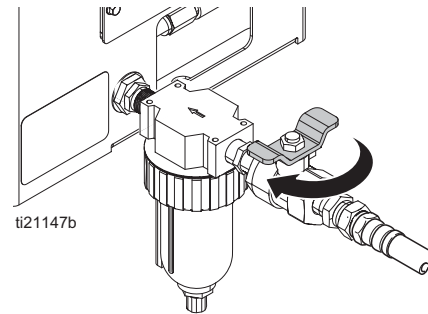

FIG. 13
20. Attach a 3/8 in. minimum air supply line to air filter. See FIG. 13.